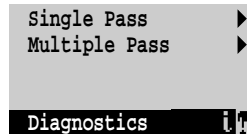

Figure 6-9 Video Diagnostics single pass or multiple pass
4. **Select Single Pass or Multiple Pass at the screen shown in Figure 6-9.**